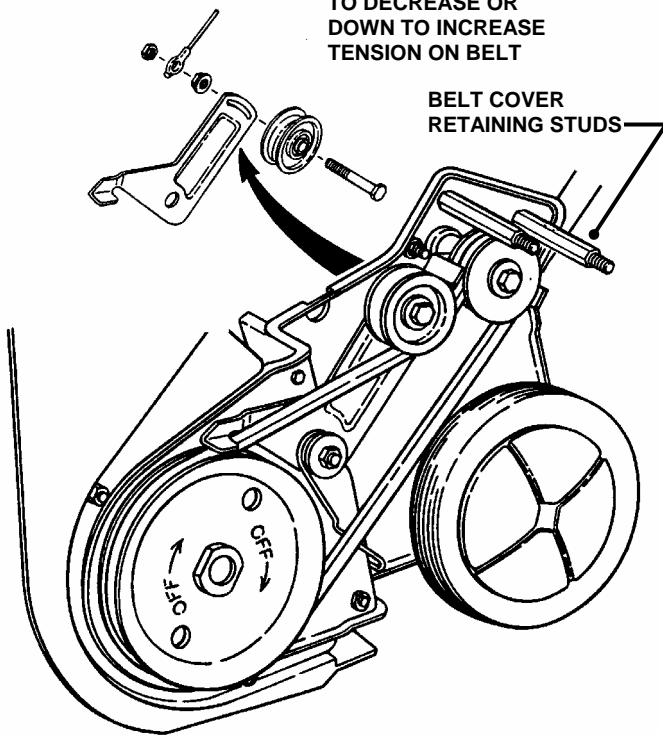

FIGURE 4.3
3. Loosen nut and bolt that secures the idler pulley to idler arm. Move idler pulley down for more tension or up for less tension on belt. See Figure 4.3. Retighten bolt and nut securely.